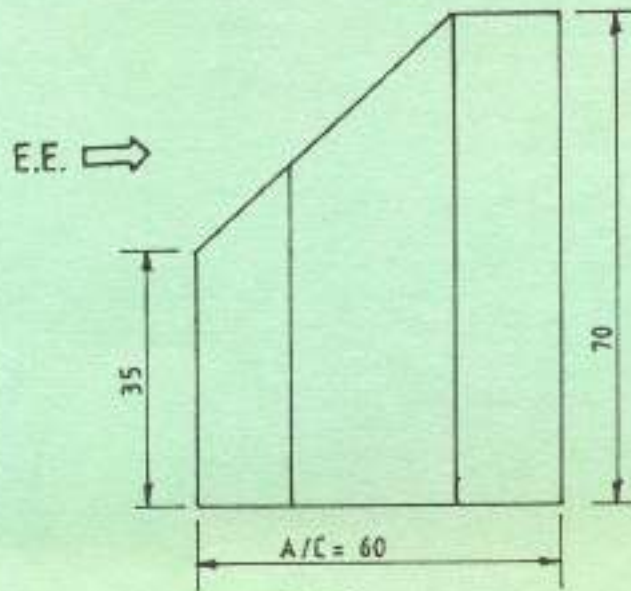

Fig 3
3. (a) Figure 3 shows the front elevation of a truncated hexagonal prism. Using first angle projection, draw the following: